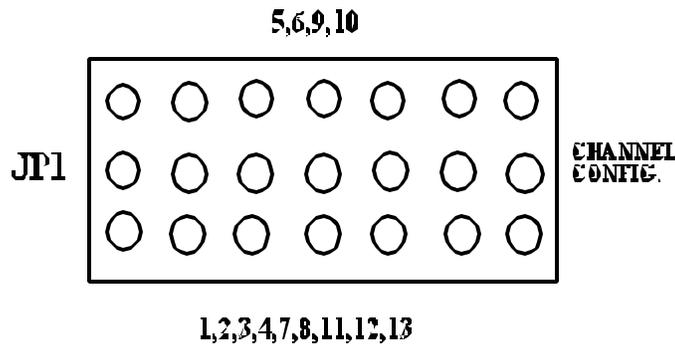

Figure 1 ASM Card Jumper Block
6. On both the operational and spare ASC, set the backup channel configuration using the 7 jumpers on JP1. Using all seven jumpers, move the jumpers to the side of the block that lists the number of output channels for your site configuration, the center row of pins being common. Example: Using figure 1 as a reference, if your site configuration had 5, 6, 9, or 10 transmitters, each jumper would connect from the center row of pins to the top row of pins. If your site configuration had 1, 2, 3, 4, 7, 8, 11, 12, or 13 transmitters, each jumper would connect from the center row of pins to the bottom row of pins.